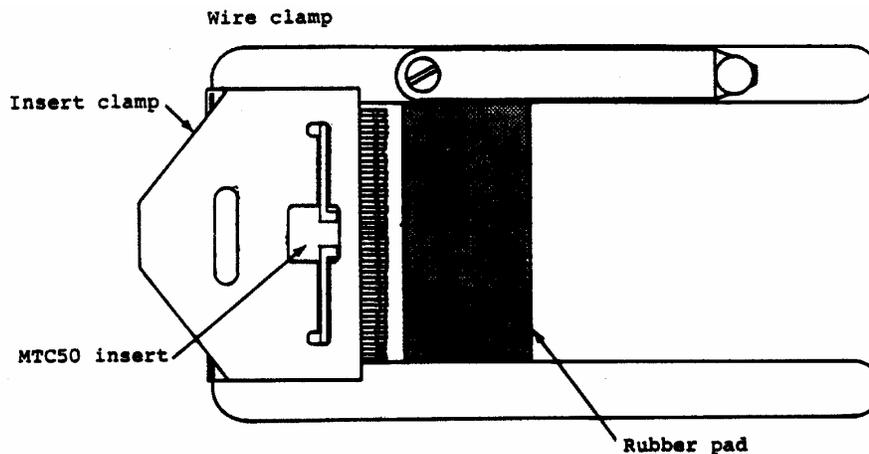

Figure 5-2. Positioning MTC50 Insert in CE-1605500 Termination Fixture
1. Position the MTC50 insert (with SolderSleeve terminators preinstalled) in the CE-1605500 termination fixture (Figure 5-2).